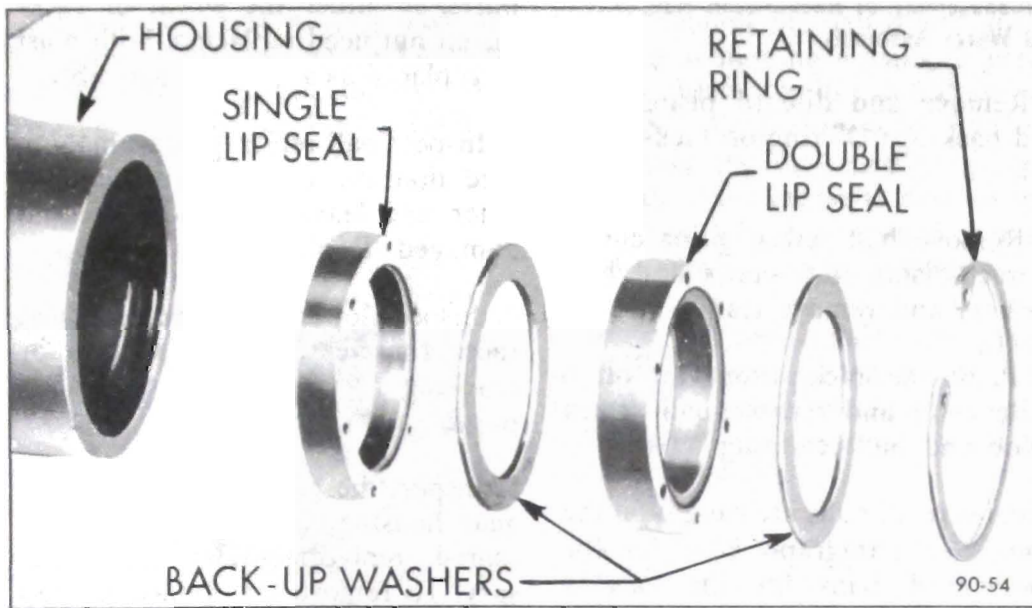
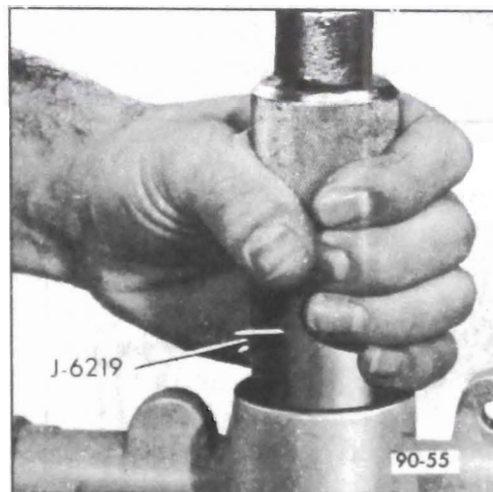

Figure 90-65 Pitman Shaft Seals
Figure 90-66 Installing Pitman Shaft Seals
2. Lubricate new pitman shaft seals with power steering oil. Install the inner, single lip seal in bore first, then a back-up washer. See Figure 90-65. Using tool J-6219, drive the seal and washer in far enough to provide clearance for the outer seal, back-up washer and retaining ring. See Figure 90-66. *The inner seal must not bottom on the counterbore.* Install the outer double lip seal and the second back-up washer in bore only far enough to provide clearance for the retaining ring with tool J-